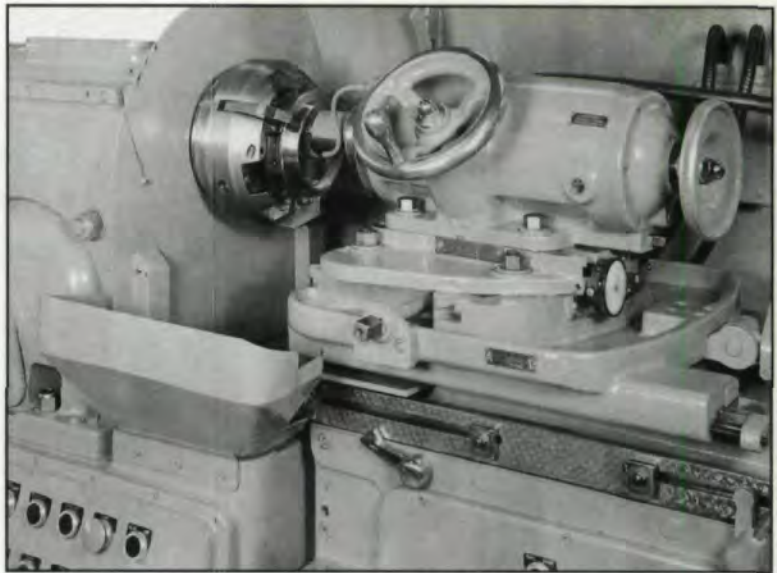
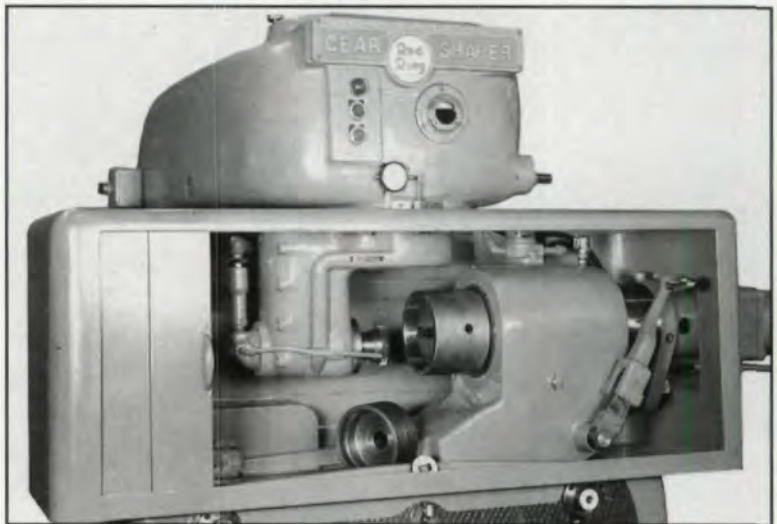

Fig. 12 - Internal gear shaver where tool is driven by the work.
Fig. 13 - External shaver with internal cutter head attachment.
**Shaving Internal Gears** - Internal gears can be shaved on special machines in which the work drives the cutter (Fig. 12), or by internal cutter head attachments on external shaving machines (Fig. 13).